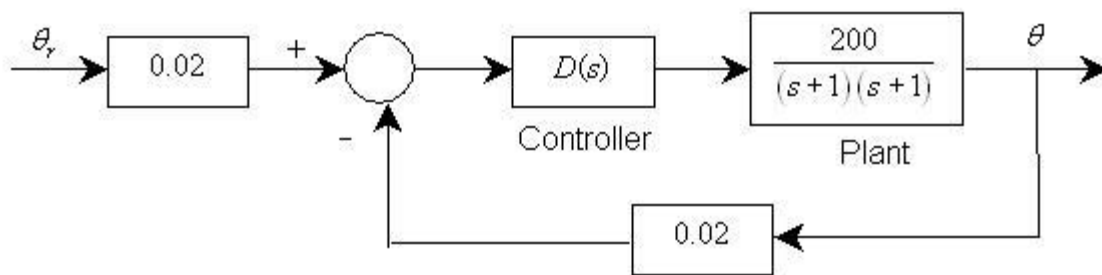

Fig. M3.17
This problem is to study the effects of Proportional (P), Proportional + Integral (PI), and Proportional + Derivative (PD) control schemes on the temperature control system. A temperature control system has the block diagram given in Fig.M3.17. The input signal is a voltage and represents the desired temperature θ_r . Simulate the control system using SIMULINK and find the steady-state error of the system when θ_r is a unit-step function